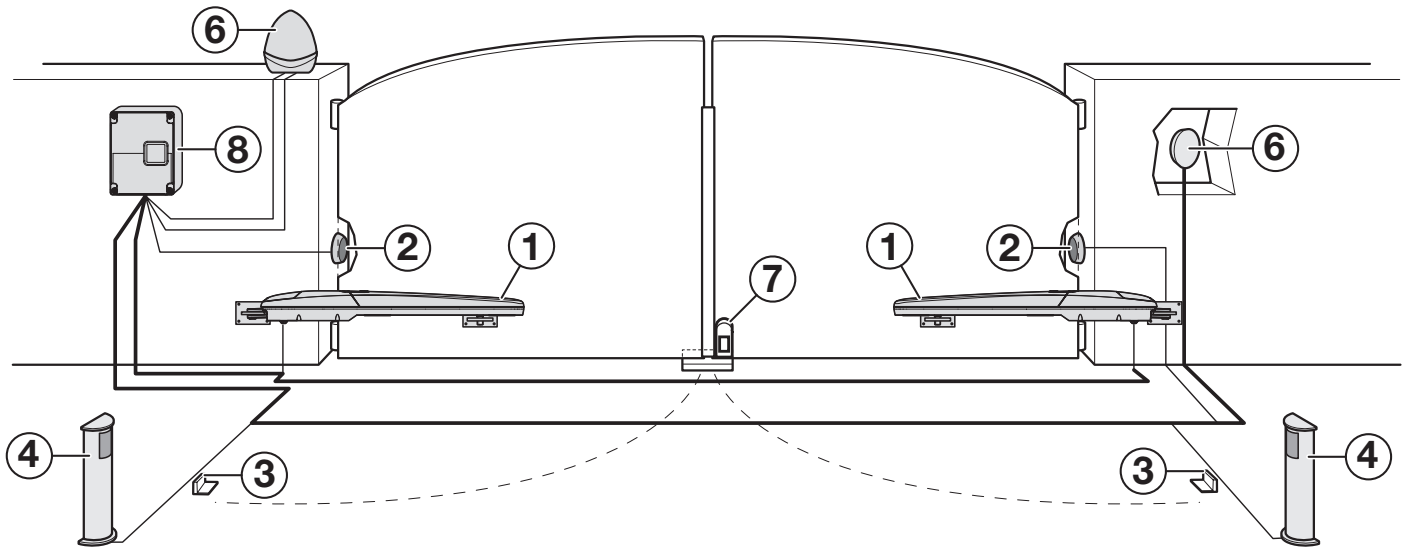

Fig. 1
**Fig. 1** shows all the components provided in the package (according to the model chosen):
In **fig.1** is an example of an automation system using King-Gates components. These components are positioned following a typical and standard setup.
With reference to **fig.1**, define the approximate installation position of each system component and the most appropriate connection setup.